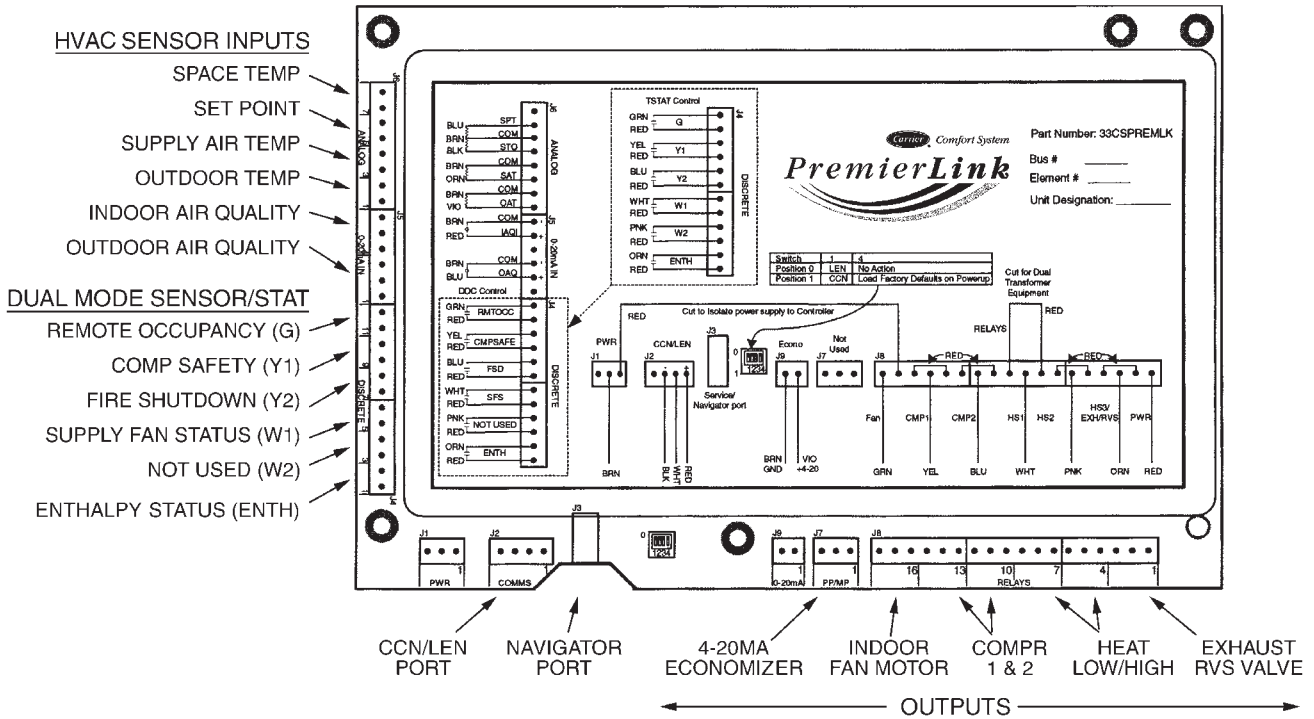

Fig. 33 - PremierLink Controller
The PremierLink controller (see Fig. 33) is compatible with Carrier Comfort Network® (CCN) devices. This control is designed to allow users the access and ability to change factory-defined settings, thus expanding the function of the standard unit control board. CCN service access tools include System Pilot (TM), Touch Pilot (TM) and Service Tool. (Standard tier display tools Navigator™ and Scrolling Marquee are not suitable for use with latest PremierLink controller (Version 2.x).)